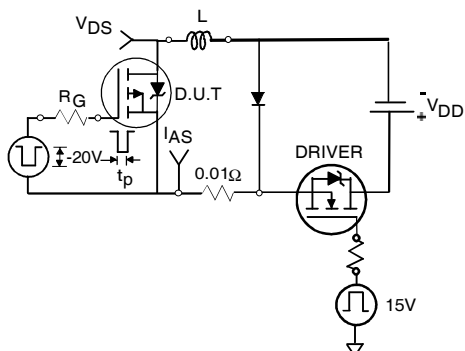

Fig 12a. Unclamped Inductive Test Circuit
5. Limited by T_{Jmax} , see Fig.12a, 12b, 15, 16 for typical repetitive avalanche performance.
3. Equation below based on circuit and waveforms shown in Figures 12a, 12b.